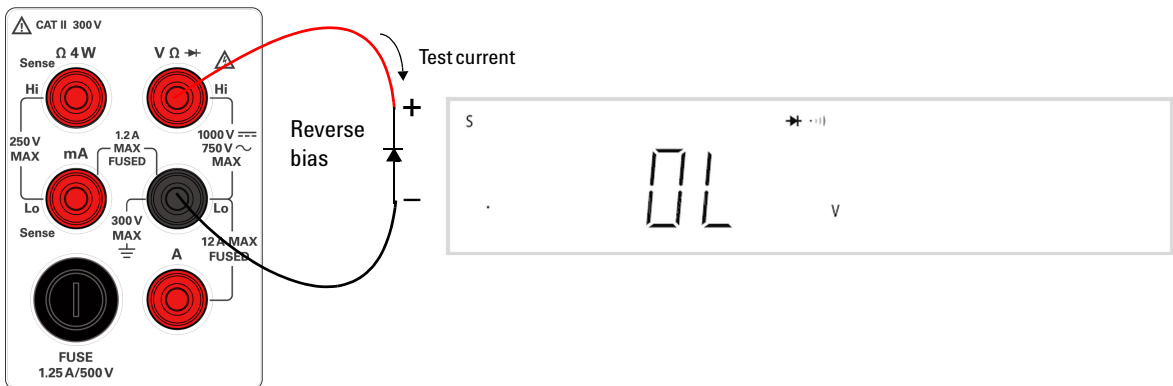

Figure 1-18 Reverse-biased diode/continuity terminal connection and display
- 5 Reverse the probes and measure the voltage across the diode again as shown in Figure 1-18. Assess the diode according to the following guidelines: